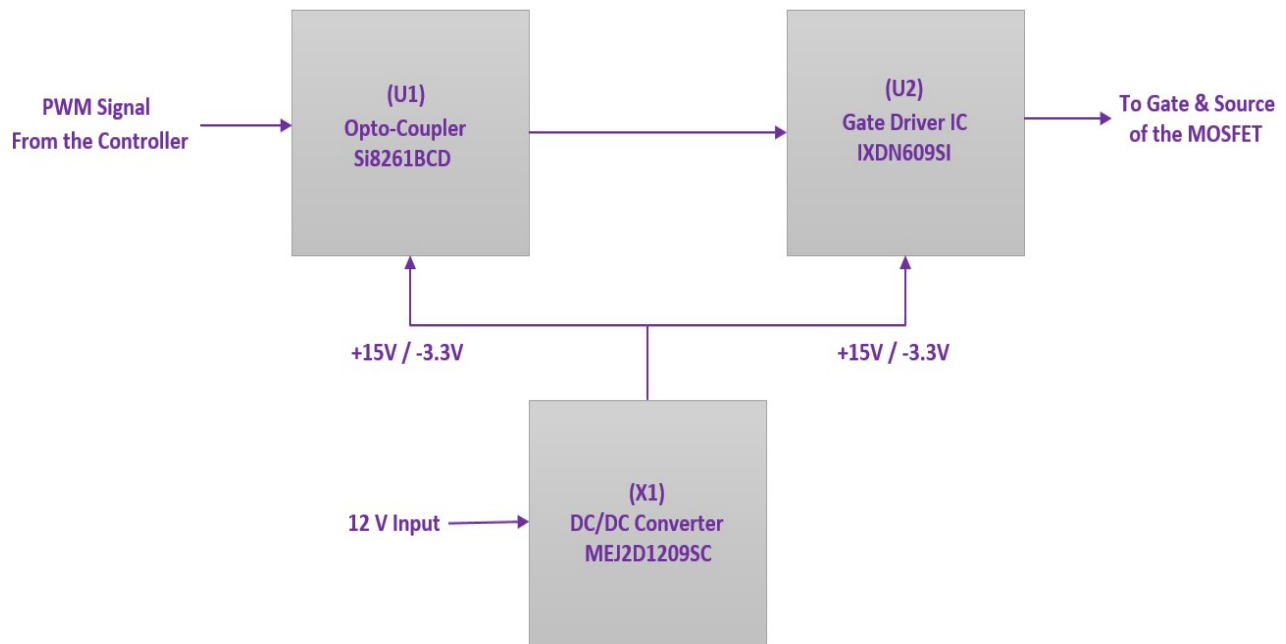

Figure 4. Block diagram of Cree's CGD15SG00D2 gate driver board for Cree's generation 3 SiC MOSFET
The block diagram of Cree's CGD15SG00D2 gate driver board for Cree's generation 3 SiC MOSFET is illustrated in Figure 4. It consists of an opto-coupler (U1), a gate driver integrated circuit (U2) and an isolated power supply (X1). The opto-coupler (U1) from Silicon Laboratories Inc. (P/N: Si826BCD) gets an input of pulse width modulation (PWM) signals and provides a high common mode immunity (35KV/us minimum, 50 KV/us Typical). A filtering capacitor across the optocoupler input has been provided.
Signal from the output of opto-coupler goes into an IXYS Corporation driver integrated circuit (IC) (U2) (P/N: IXDN609SI) as shown in Figure 4. U2 provides 35V of output swing and up to 9A of output current with a typical output resistance of 0.8 Ω .